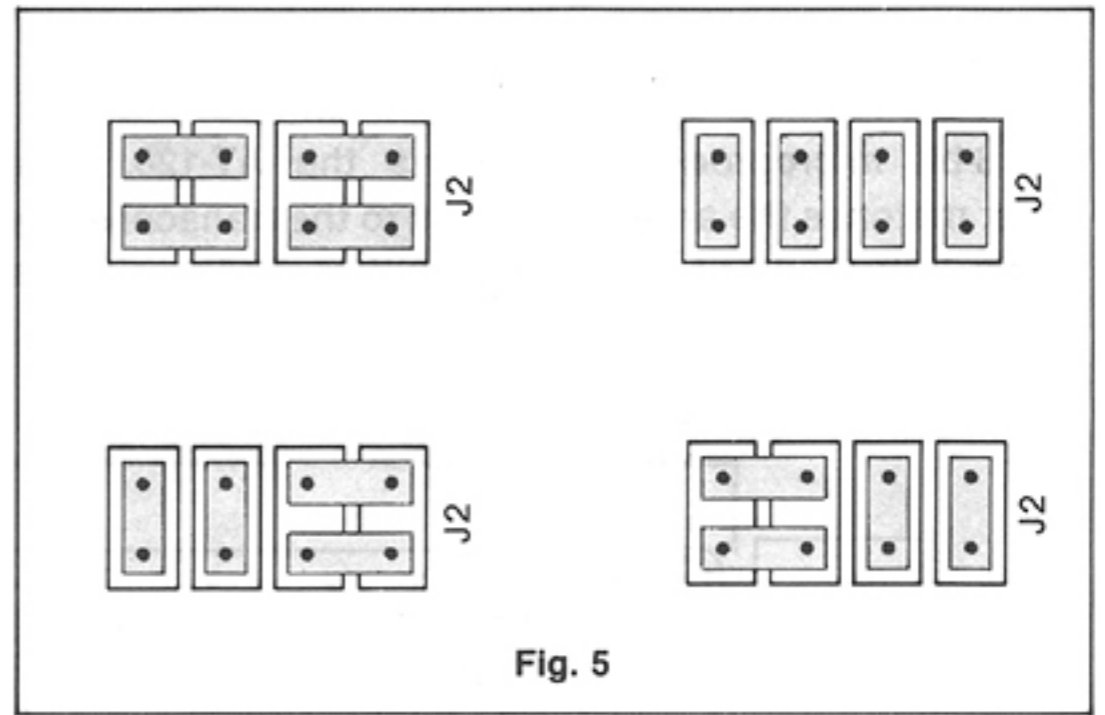

Fig. 5
③ Connect P5 (red wire) to any of pins J7 through J22.
⑥ Arrange the configuration of J2 into any of the combinations below (See Fig. 5).